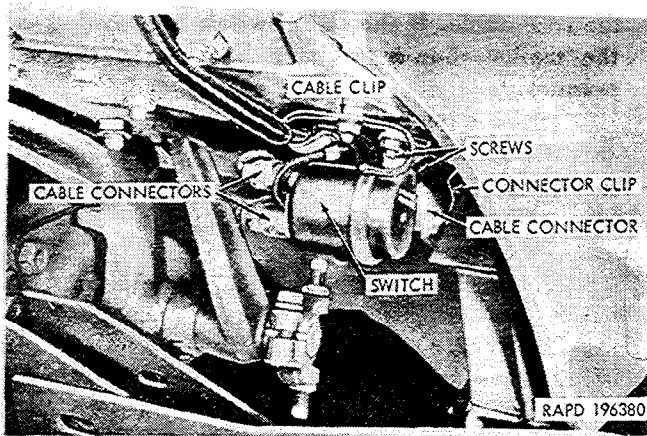

Figure 2-56. Dimmer switch.
(1) Remove the rear splash shield from the left front fender (para 2-180 *a*).
(2) If the vehicle is equipped with a slave receptacle, disengage the receptacle cable from the cable clip near the dimmer switch.
(3) Remove the large cable connector from the connector clip (fig. 2-56), separate the connector shells on the three cables, and disconnect the cable terminals.
(4) Front inside the driver's compartment, remove the two screws and lockwashers that secure the switch, and remove the switch from the toeboard.
(1) Position the dimmer switch (fig. 2-56) on the underside of the toeboard and install the two lockwashers and screws. Tighten the screws.
(2) Connect the three cable terminals to their respective cables and connect the shells. Engage the large cable connector in the connector clip (fig. 2-56).
(3) Engage the slave receptacle cable in the cable clip (on vehicles so equipped).
(4) Install the left front fender rear splash shield (para 2-180 b).